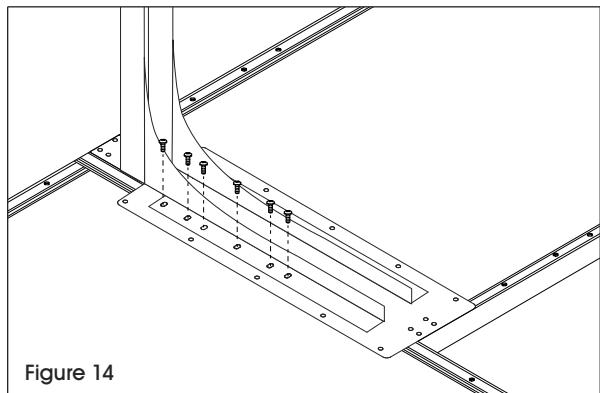

Figure 14
1. Slide L-extension underneath base table on right or left hand side. Make sure that table corners align and that the six bolt locations closest to the center of the leg align with the holes on the edge of the base tabletop. (See Figure 14)